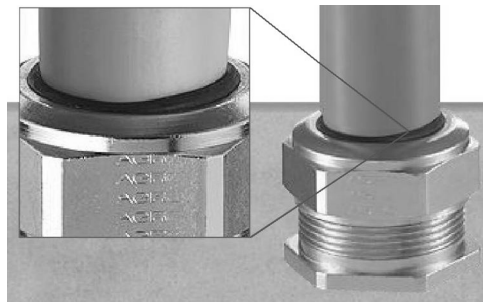

Figure 9: Gland tightening
- 4 Screw the cap nut onto reader part until the seal insert is pushed out of the gland. See Figure 9.